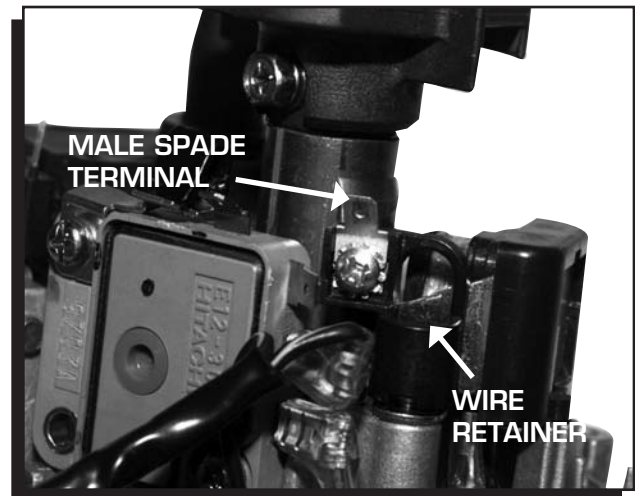

Figure 1 Installing the Spade Terminal.
4. Install the supplied wire retainer using the supplied 14mm Phillips screw in the location shown in Figure 1.